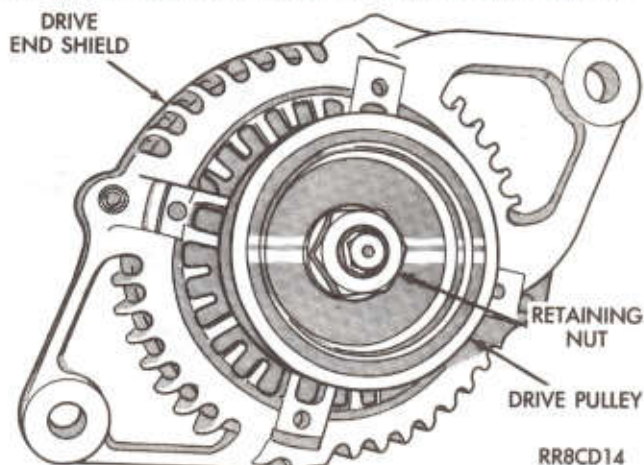

Fig. 13—Remove or Install Drive Pulley Attaching Nut
(8) Remove alternator drive pulley attaching (1) nut (Fig. 13).